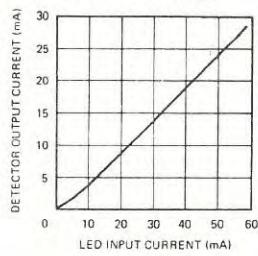

FIGURE 4. DETECTOR
As shown in Figure 4, the gain range on the AD521 can be extended considerably by adding an attenuator in the sense terminal feedback path (as well as adjusting the ratio,  $R_s/R_g$ ). Since the sense terminal is the inverting input to the output amplifier, the additional gain to the output is controlled by  $R_1$  and  $R_2$ . This gain factor is  $1 + R_2/R_1$ .
When a predetermined output offset is desired,  $V_{REF}$  can be placed in series with pin 11. This offset is then multiplied by the gain factor  $1 + R_2/R_1$  as shown in the equation of Figure 4.
**Figure 4.** Circuit for utilizing some of the unique features of the AD521. Note that gain changes introduced by changing  $R_1$  and  $R_2$  will have a minimum effect on output offset if the offset is carefully nulled at the highest gain setting.